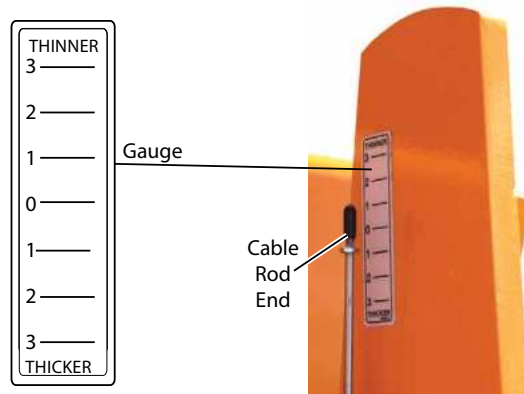

Figure 4-44. Gauge and Cable Rod End
1. Before paving, refer to the screed elevation gauge (located on both sides of the operator platform, left side shown). **(Figure 4-44)**
4. Level the screed using the electric flight screw gauge (Figure 4-44).